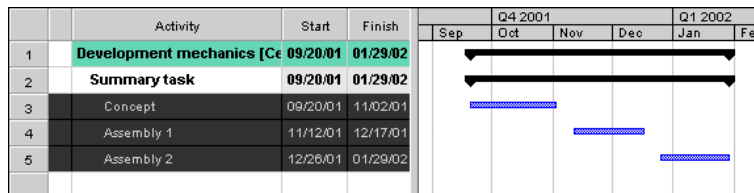

Figure 37: The summary task has been created and the lower-level activities indented.
2. Then highlight the activities to be grouped and click on the *Summary Bar* icon (or the *One Row* icon). This inserts a new row with the name "Summary Task" (Figure 37). The associated activities are indented one level in the table.